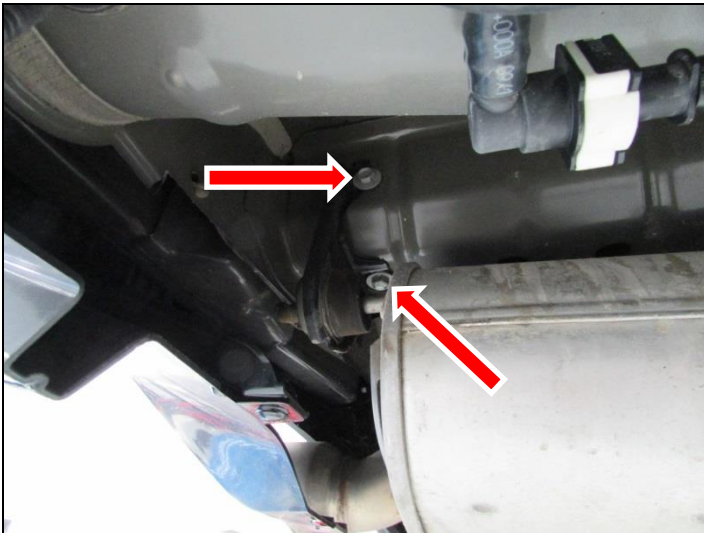

Figure 5
8. Remove the (x2) 13mm head bolts securing the left side rear OE muffler isolation mount bracket to the chassis. Remove the left side OE muffler section (**Figure 5**).